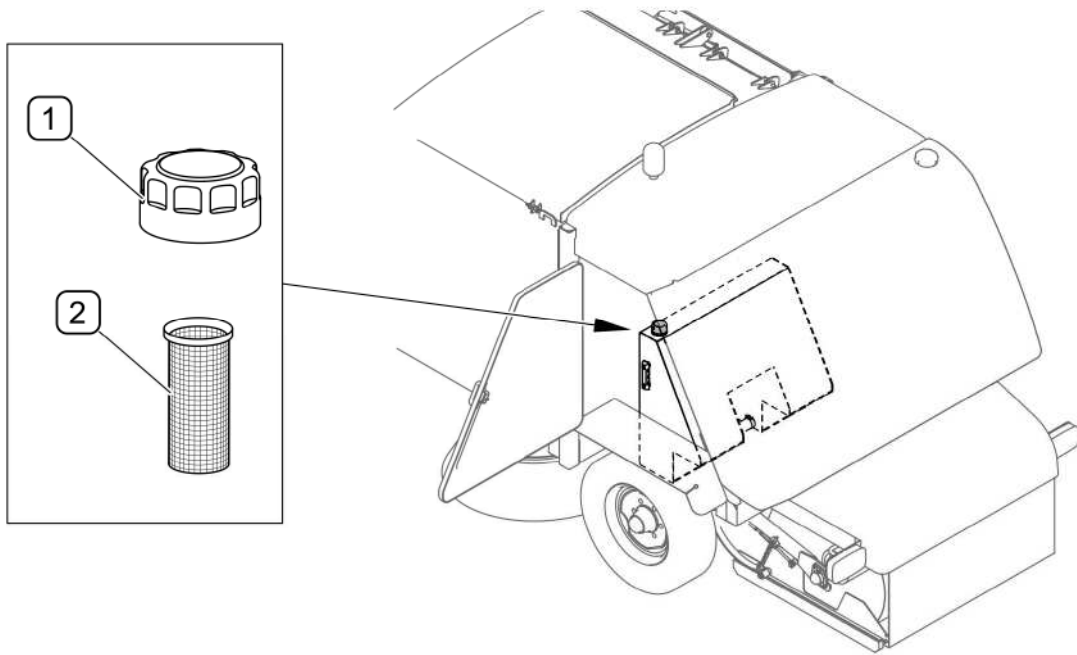

FIG. 5.15 Inlet filter
Inlet filter (2) is located inside inlet opening and should be inspected and cleaned periodically. Open the rear left-hand shield in order to gain access to the inlet filter (FIG. 5.15) . Unscrew cap (1), take out mesh filter cartridge (2) and clean in washing agent.
Inlet filter (FIG. 5.15) should be cleaned at every oil change or top-up.